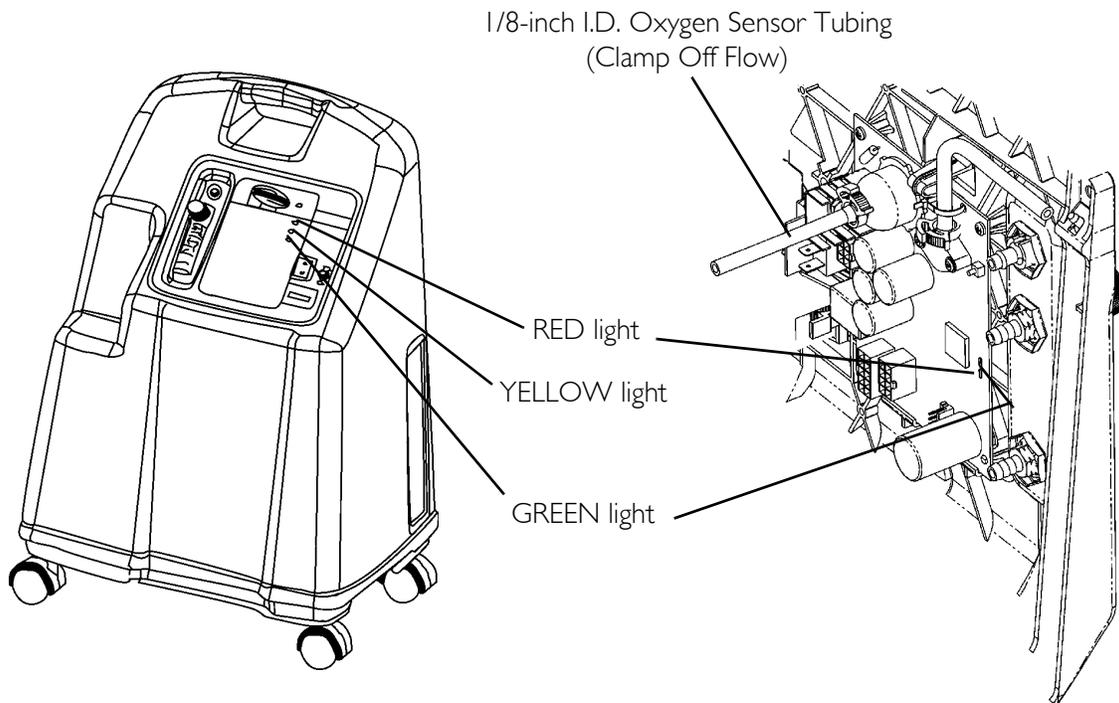

FIGURE 24.3 Oxygen Sensor
2. The main valve coil alarm should activate within 40 seconds. Refer to SensO2 Indicators on page 99 for shutdown mode (FIGURE 24.3).
NOTE: For this procedure, refer to FIGURE 24.3 on page 99.